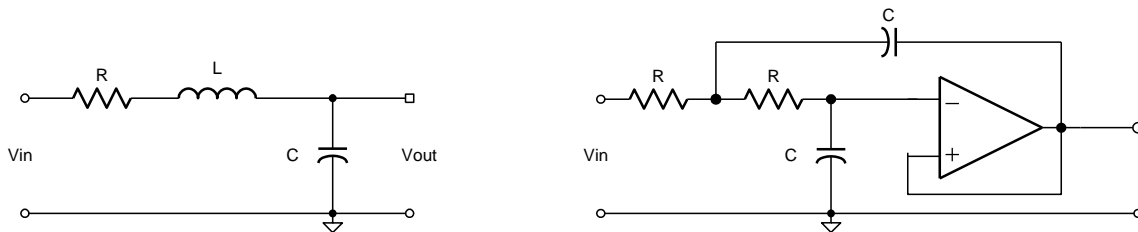

Figure 1 – Second-Order Passive Low-Pass Filter and Active Filter
In these cases, active filters become important. Active filters are circuits that use an operational amplifier (op amp) as the active device in combination with resistors (R) and capacitors (C) to provide an RLC-like filter performance at low frequencies (Figure 1).